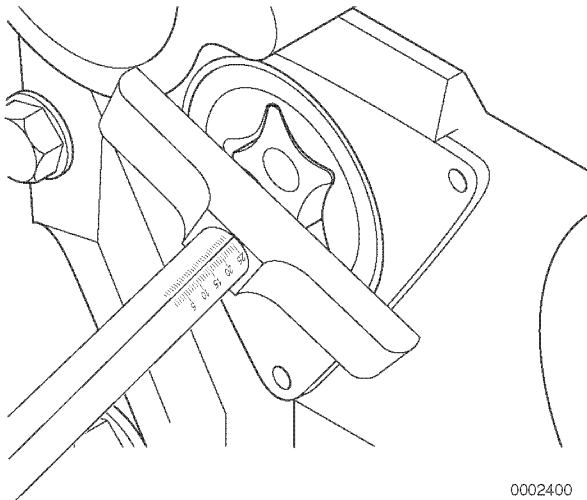

Figure 6-72
5. Measure the distance between the oil pump cover mounting surface and each rotor using a depth micrometer (**Figure 6-72**). Record the measurement.